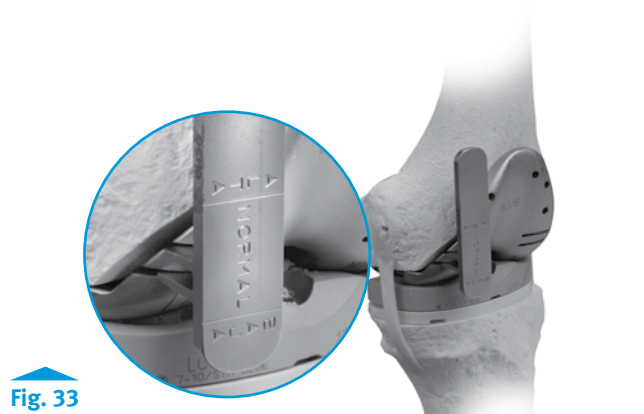

Fig. 33
- If desired, assess the position of the patella by inserting the tabs of the Patella Joint Line Gauge into the two distal slots on the anterior flange of the Femoral Provisional/Cutting Guide, and ensure that the inferior pole of the Patellar Provisional or unresurfaced patella falls between the two “Normal” marks on the gauge (Fig. 33).